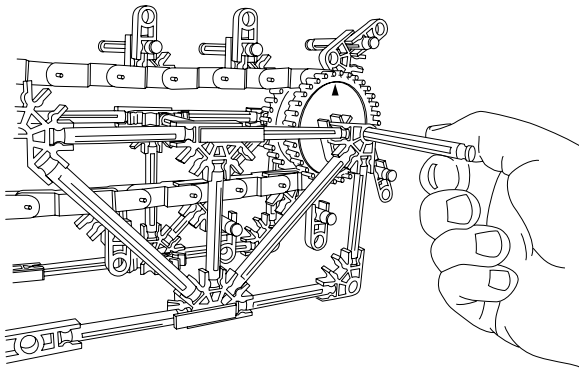

Fig.2
5. Turn the **shaft** until the belt gear completes one full rotation. (See *Fig. 2*)